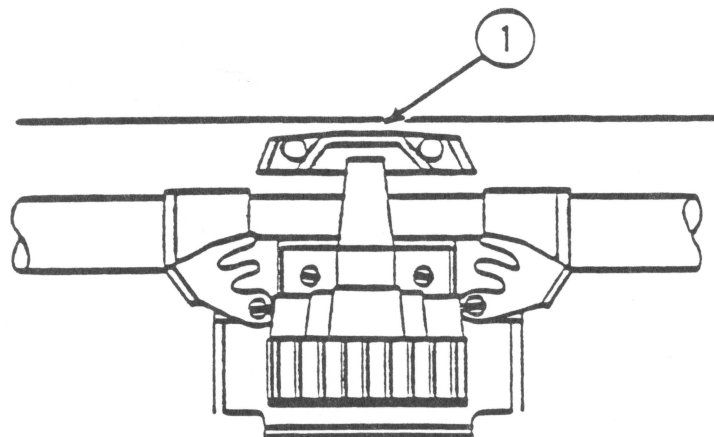

FIGURE 12
8. On the head top, brush off any ribbon chips and paper dust. (See Figure 12, #1.) **WARNING: Do not use alcohol to clean the dot head. Alcohol will destroy the dot head.**